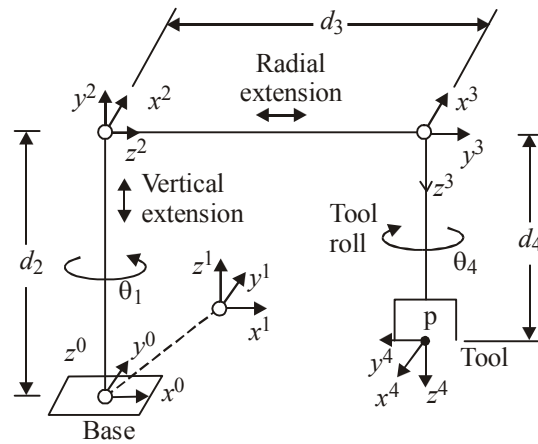

Figure 1: A four axis cylindrical robotic arm
7. The link-coordinate diagram for the four-axis cylindrical-coordinate robot with tool roll motion is shown in figure 1. Here the vector of joint variables is  $q = [\theta_1 \ d_2 \ d_3 \ \theta_4]^T$ , and the kinematic parameters are also shown in Table 1. For this robotic arm :